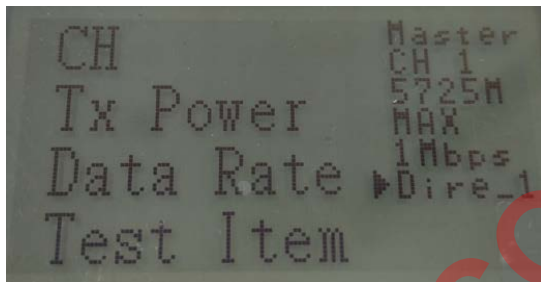

Fig.15
1. Press '↓' or '↑' button to select Dire_1 as shown in Fig.15.